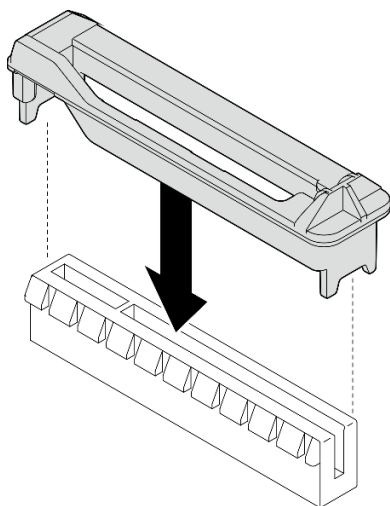

Figure 120. x8 PCIe slot holder
- To replace an existing PCIe adapter, skip to the procedure of installation: Figure 120 “Installation procedure of a HL PCIe adapter” on page 172